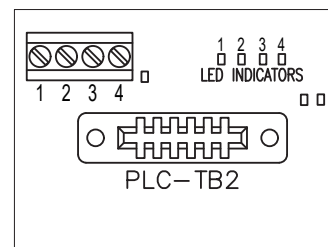

Figure 2
5. Connect signal wires per the list below. **See Figure 2.**